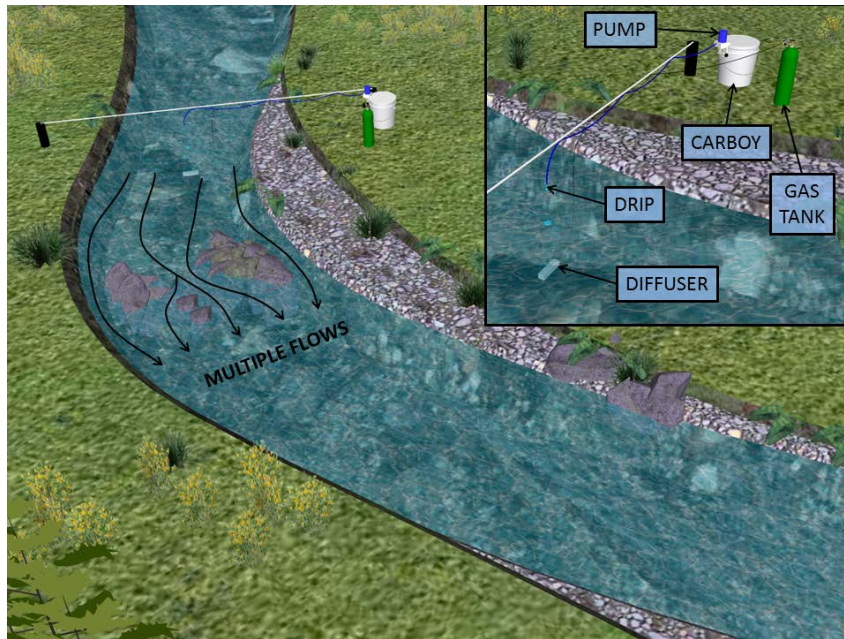

Figure 4. Field setup of the injection site with conservative tracer and inert gas
- b) Set up the bucket/carboy, tubing, battery, and pump on a level surface at the injection site (Figure 4). If a level surface on the bank is not adequate, place pump set-up on a bridge or plank laid across the stream.
- e) Pump Set-up: The end of the tubing should be placed a few inches above the water surface. **DO NOT** put the tubing in the stream because it will change the pump rate. Attach the tubing to something stable, such as a piece of rebar pounded into the streambed or a tree above the stream. Make sure to INJECT (i.e., Drip) INTO THE THALWEG so the solution will mix as quickly as possible with the stream water (Figure 4).
- (3) Use gas-impermeable (e.g., Tygon) tubing to connect the TOP of the flowmeter to the diffuser (air stone). The tank can lie on the ground.
- (4) Make sure diffuser remains underwater and is at the same location in the stream as the conservative tracer injection (Figure 4).
- (5) Ensure the flowmeter is vertical. The flowmeter must remain upright for the best performance.